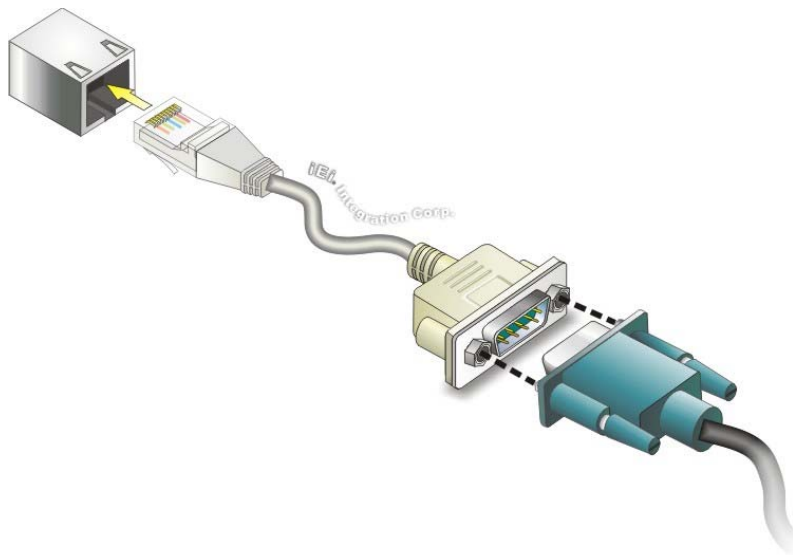

Figure 3-37: RJ-45 RS-422/485 Serial Device Connection
Step 2: Insert the RJ-45 connector. Insert the RJ-45 connector on the RJ-45 to DB-9 COM port cable to the RJ-45 RS-422/485 connector on the PPC-5152-D525. See **Figure 3-37**.